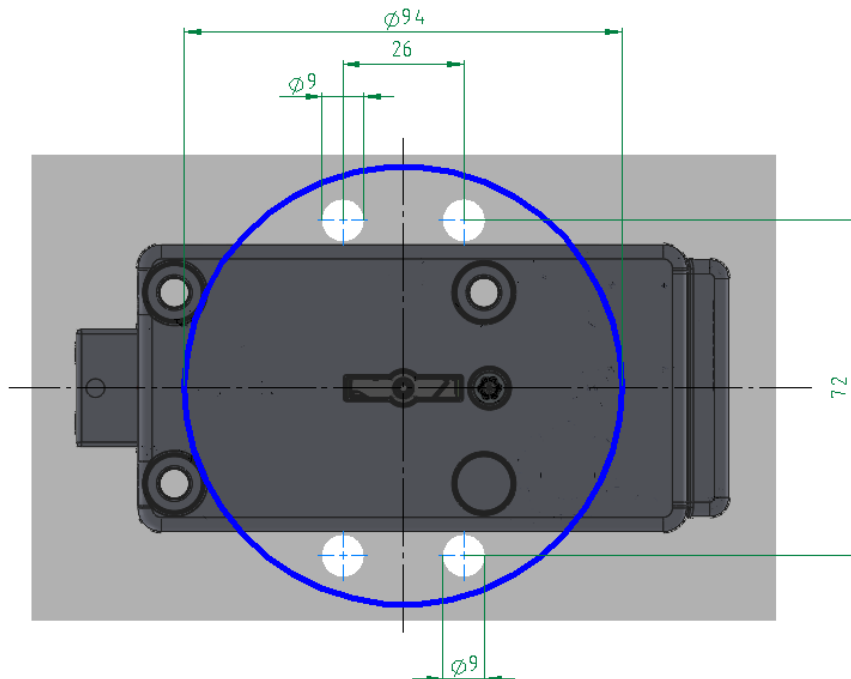

Figure 2 - Drilling positions for the Primor FS
- Figure 2 - Drilling positions for the Primor FS 5
Possible drilling positions for this case are shown in Figure 2.